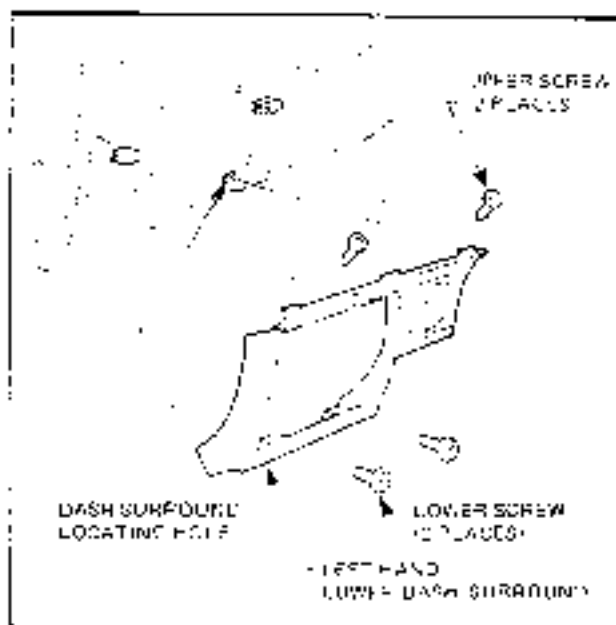

Figure 12C-38
5. Disconnect the wiper dwell control switch wiring connector from the main wiring harness. Refer Fig. 12C-39.